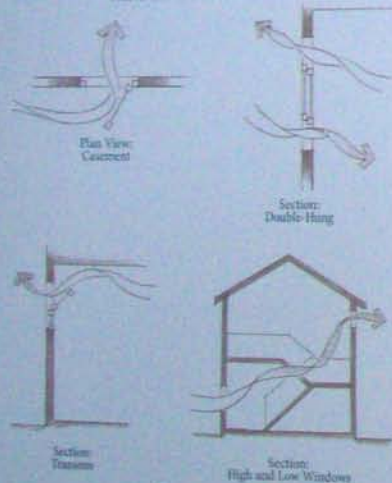

Figure 9
• **Experiment with your existing windows to improve airflow** (see figure 9). If your house has casement windows, not only can you get the maximum ventilation area for a given glass area, but you can also use the windows to catch and direct airflow. For double-hung windows, you might want to try opening both sashes partway; this can let cooler air in at the bottom and warmer air out at the top. If you have operable transoms above doors and windows (interior or exterior), use them to exhaust hot air that collects near the ceiling; you might want to add transoms if you don't already have them. If your house has more than one level, try opening high and low windows to pull air through the house vertically.